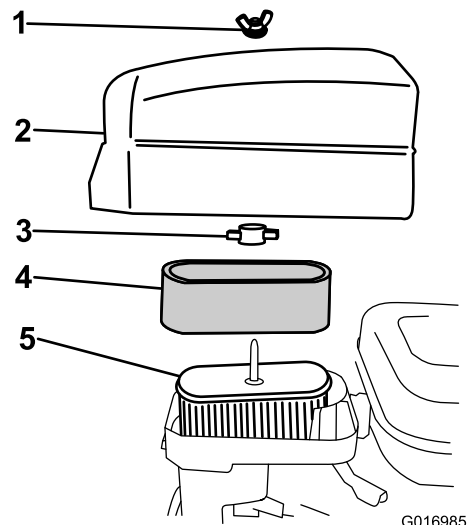

**Figure 25**
2. Remove the wing nut securing the air-cleaner cover and remove the cover (Figure 25).